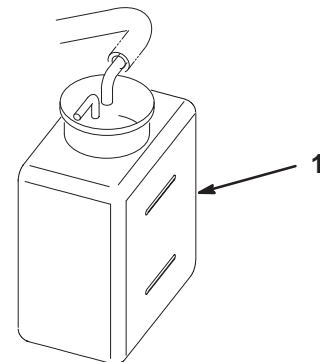

Figure 26
- Check the coolant level (Fig. 26). It should be between the lines on the reserve tank when the engine is cold.